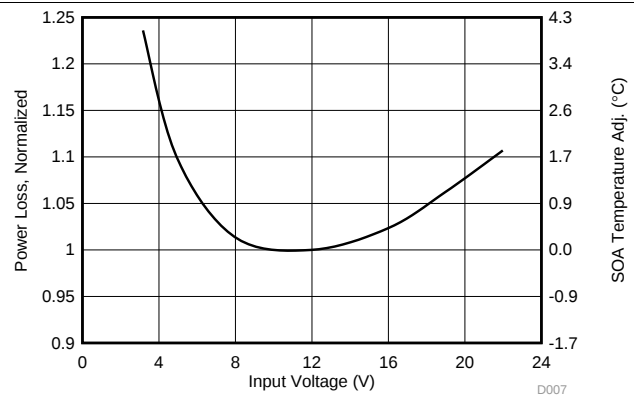

Figure 6. Normalized Power Loss vs Input Voltage
- Normalized power loss for input voltage ≈ 1.01 (Figure 6)